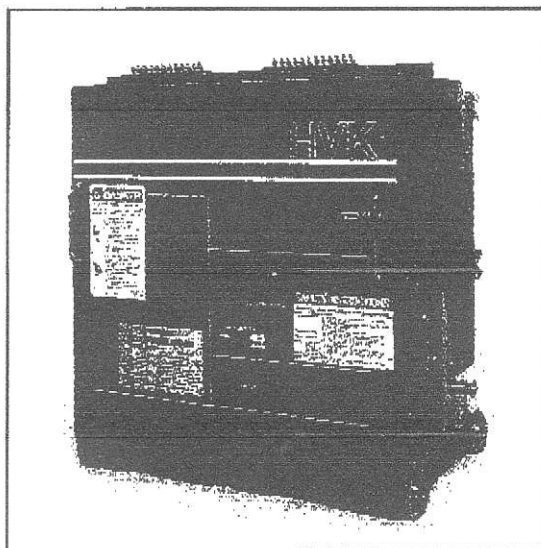

Fig. 2 The Circuit Breaker should be kept Upright
- 3) Keep the equipment upright (Fig. 2).